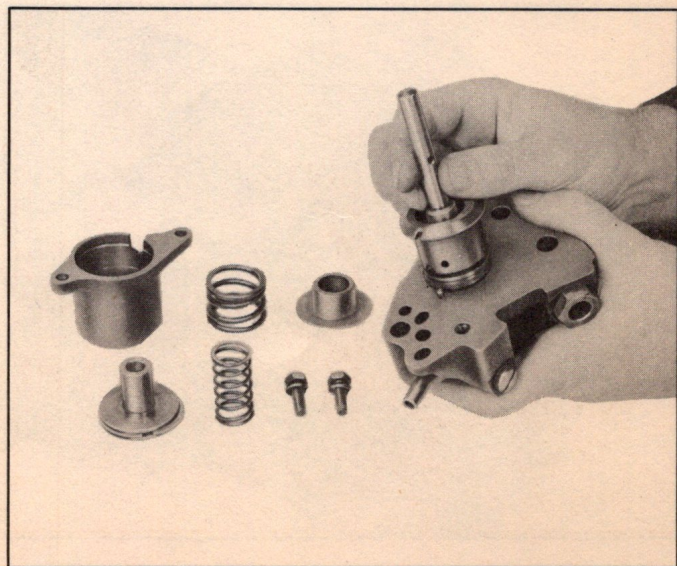

Fig. 165—Removing Servo Piston
6. Remove front servo piston assembly from servo body (Fig. 165).